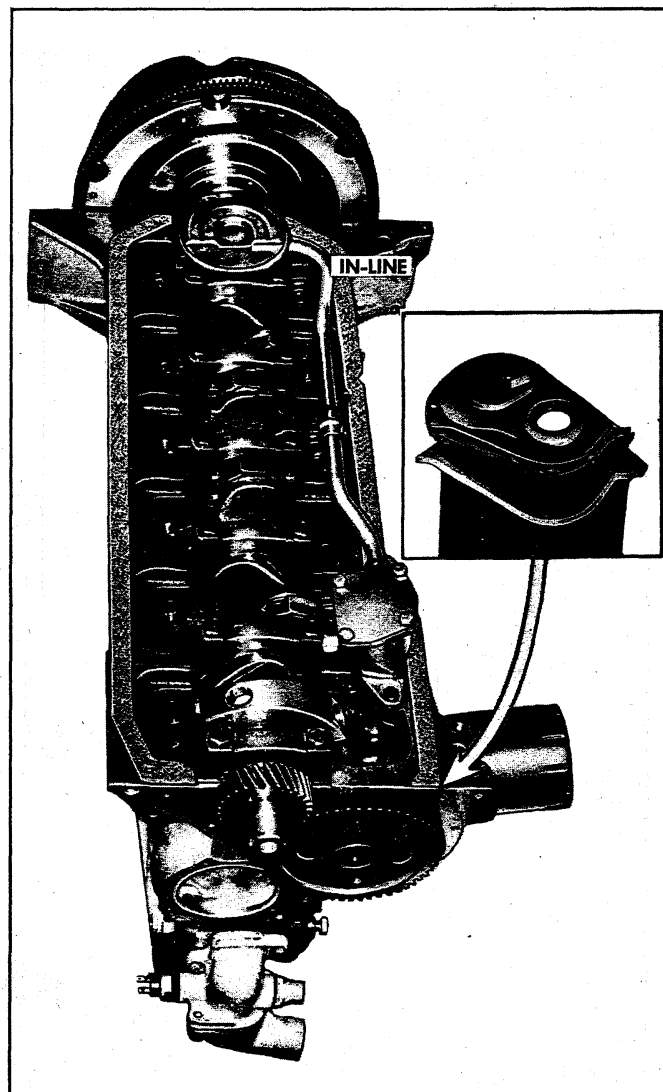

Fig. 6L - Pan Gaskets and Seals
4. Install side gaskets on cylinder block (fig. 6L).